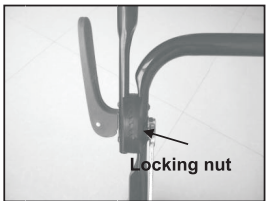

Fig.2E
4. Adjust the tension by turning the locking nut with a suitable spanner. (Fig.2E)